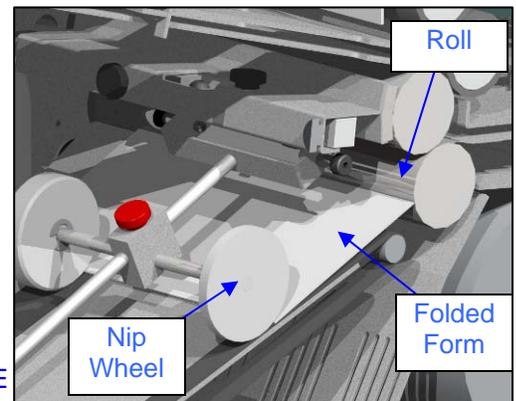

Figure 14: Nip Wheel Adjustment
2. Adjust the **nip wheel** so that it is ½" from the other side of the folded form. (See Figure 14)